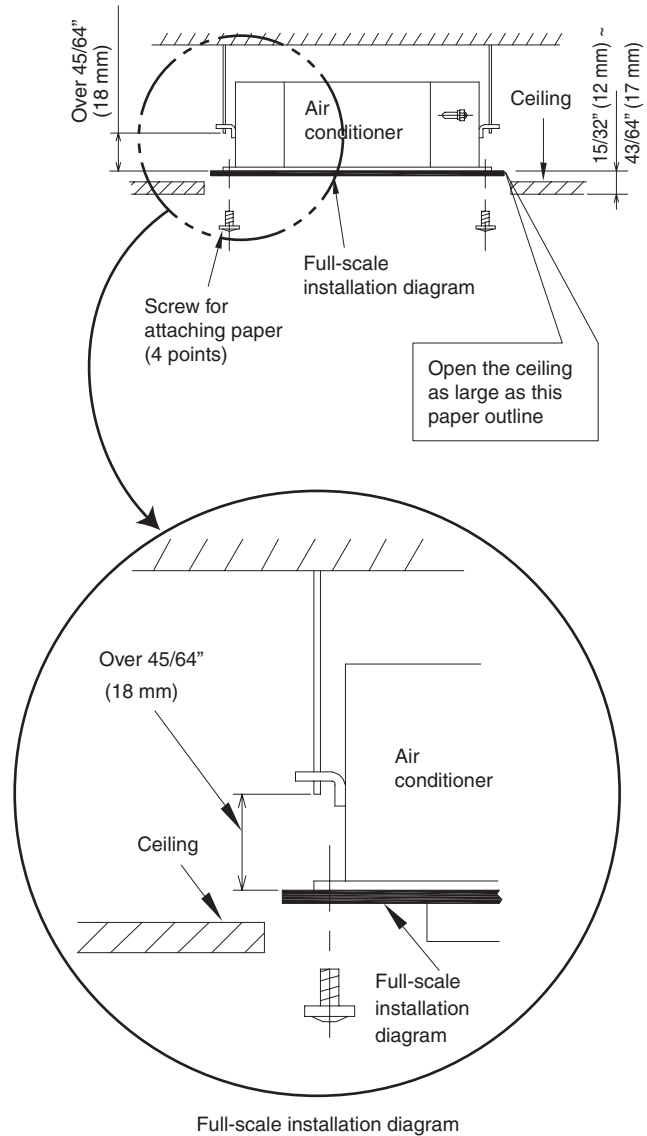

Fig. 1-122
- (1) When placing the unit inside the ceiling, determine the pitch of the suspension bolts using the supplied full-scale installation diagram. (Fig. 1-122)
- (2) The length of suspension bolts must be appropriate for a distance between the bottom of the bolt and the bottom of the unit of more than $45/64"$ (18 mm) as shown in Fig. 1-122.